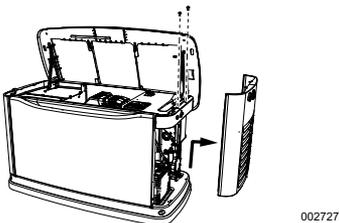

Figure 3-4. Removing End Panel (Internal Breaker)
2. See Figure 3-4. If generator is equipped with an internal breaker near the controller, remove end panel from right side. Otherwise, proceed to Step 3.